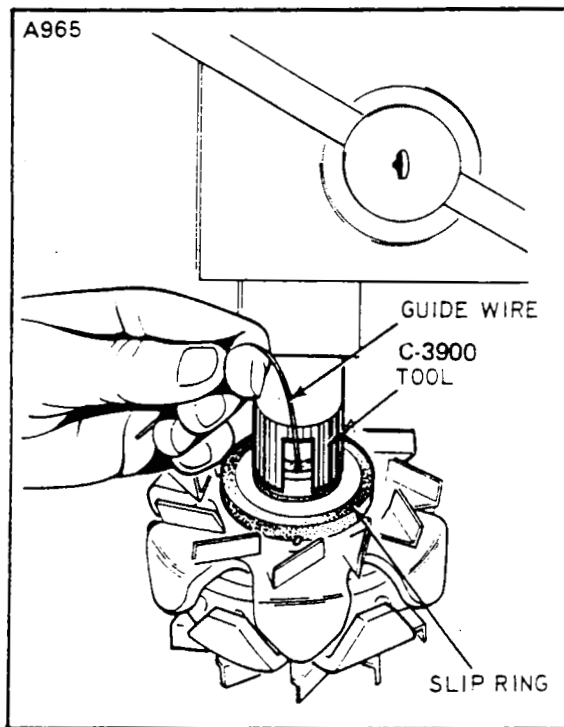

Figure 10-19. Installing Slip Ring
5. Place installing tool C-3900 over the rotor shaft with the guide wire protruding from the slot in the tool. (Refer to Figure 10-19.)